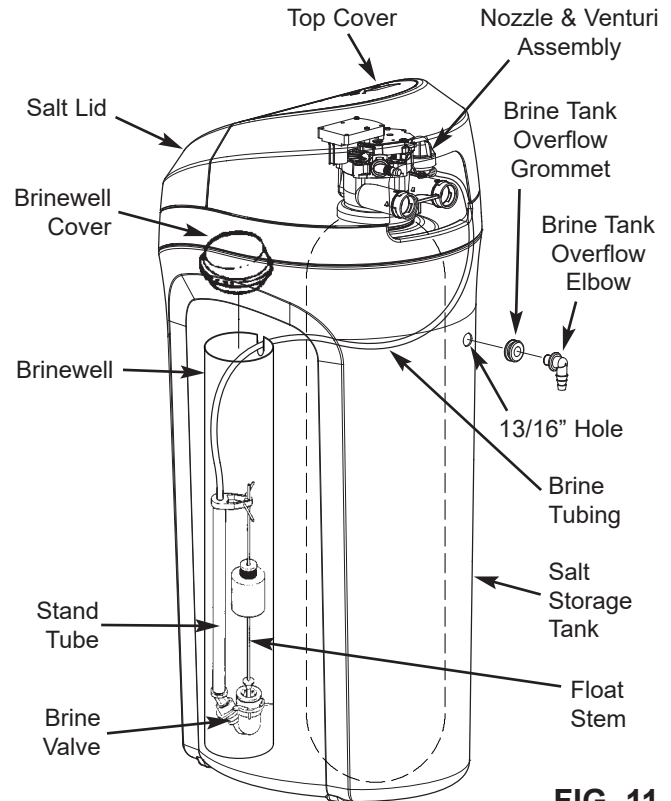

FIG. 11
1. Morton® water softener models are factory assembled. During installation, unsnap and remove the top cover, together with the salt lid, to expose the softener valve assembly. Set them aside to prevent damage. Check the brinewell to be sure it is secured and vertical (See Figure 11).